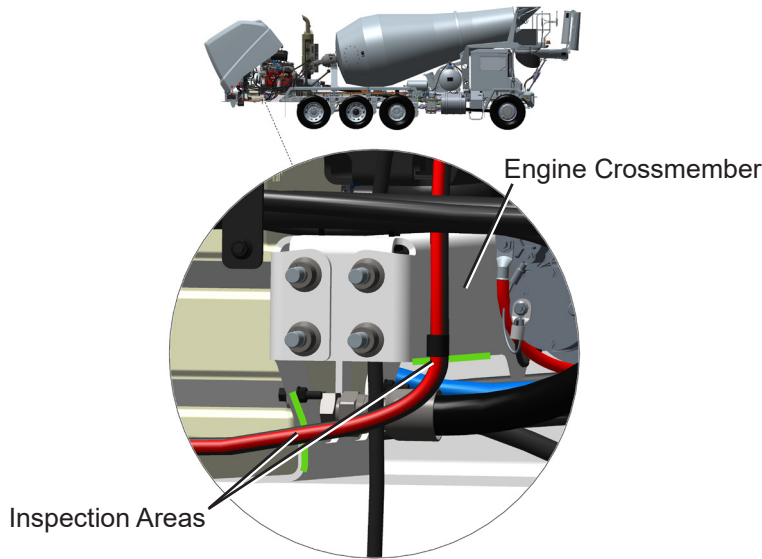

Figure 1
3. Inspect alternator positive and negative cables for signs of wear to cable sleeve or insulation along front side edges of rear engine crossmember. See Figure 1.